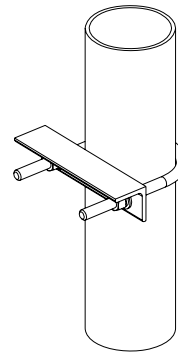

Fig 8.2
8.2 Tighten all the standard parts (shown in Fig 8.2).